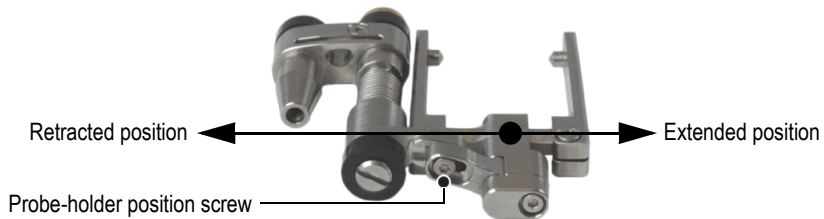

Figure 2-23 The probe holder in the extended position
9. Configure the probe holder (see Figure 2-23 on page 49):